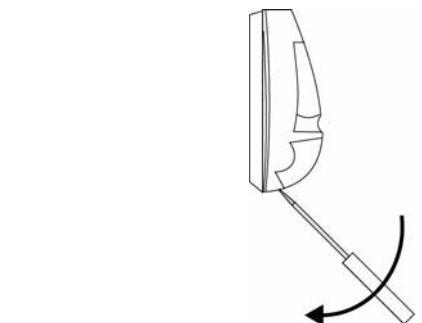

Fig. 1 Open the Housing
- Insert a small flat-blade screwdriver at the tab on the bottom of the unit. The screwdriver will enter the slot at about a 45° angle. Press downward on the handle of the screwdriver until the latch holding the cover to the housing base releases (Fig. 1).
- Place a selection jumper on the appropriate frequency band selection pins (Fig. 1).
- Place a selection jumper on the appropriate pulse count selection pins (Fig. 1).